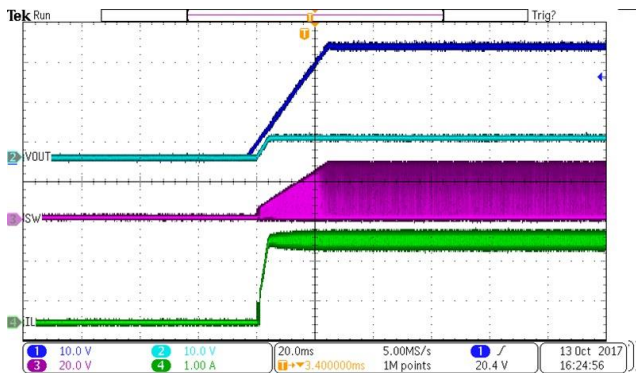

Figure 17. Power Up
The SCT2320 features external programmable output voltage by using a resistor divider network R_1 and R_2 as shown in the typical application circuit Figure17. Use equation (11) to calculate the resistor divider values.